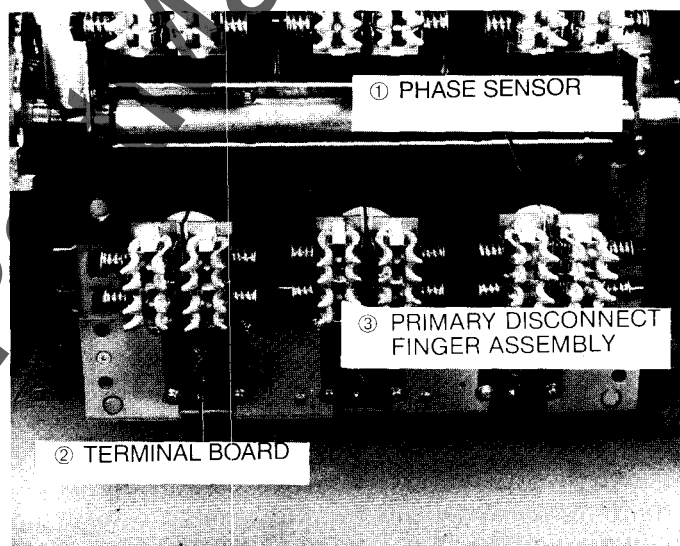

Fig. 3-5. MicroVersaTrip® RMS- 9 phase sensors installed
5. Install the MicroVersaTrip® RMS- 9 phase sensors as shown in Fig. 3-5. Engage the sensor's anti-turn lugs with the notches in the locking ring.
6. Install the new sensor terminal board (See Fig. 3-5).